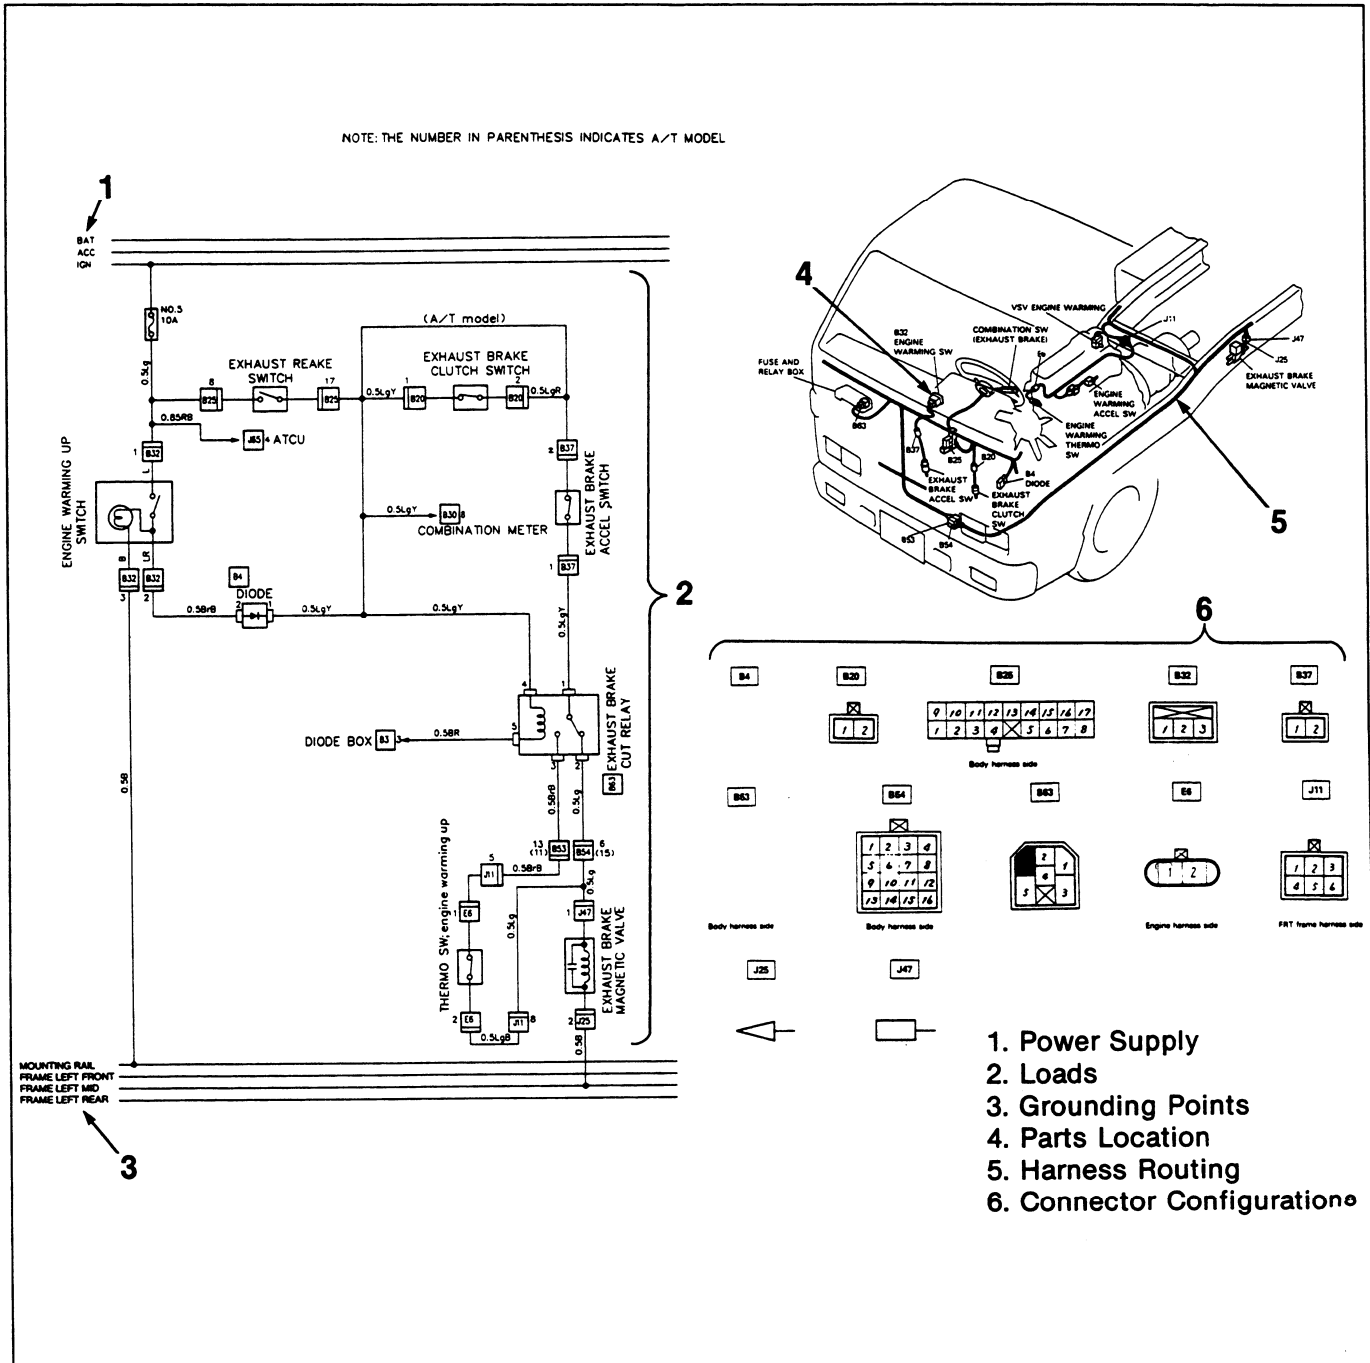

Figure 30. Circuit Diagram and Parts Location
In this manual, each system circuit has its own diagram. The circuit diagram shows the power supply (1), the load or loads (2), and the grounding point(s) (3) (figure 30).
The parts location shows the location of the parts (4) which using the each circuit, harness routing (5) and connector, diode and relay configurations (6) (figure 30).